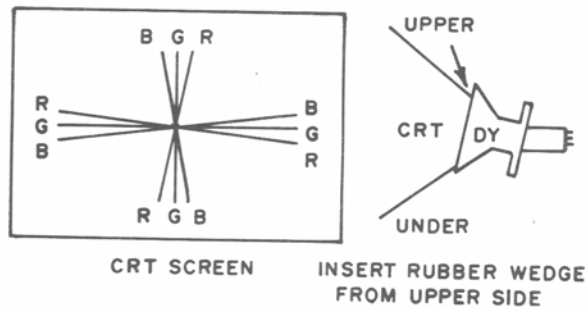

FIGURE 8a
2. Insert a wedge temporarily and fix the Deflection Yoke so as to obtain the best circumference (Figures 8a through 9b).
1. Tilting the angle of the yoke up and down adjusts the crossover of both vertical and horizontal red and blue lines (Figures 8a and 8b).